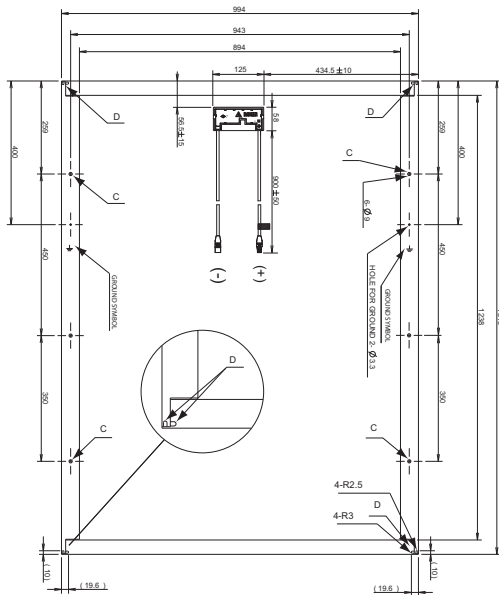
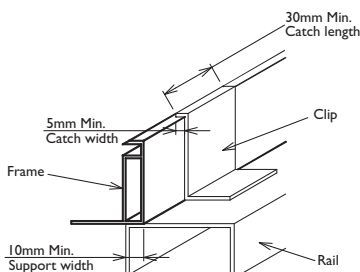
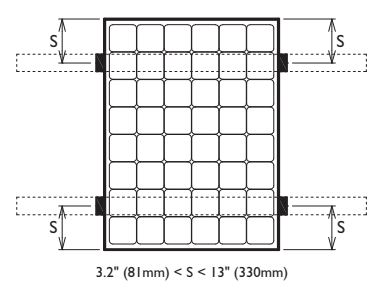

Figure 1
Figure 3
Figure 5
All PV modules must be grounded by electrical connection of the module frames to ground. Please be careful in arranging the system ground so that the removal of one module from the circuit will not interrupt the grounding of any other modules. The modules should be grounded to the same electrical point as described below. Each PV module has a hole on the side frame for either a bolt, nut and washer grounding the module to the frame, a ground lug fastened by bolt or screw, or appropriate screw (hardware not provided). An example of acceptable ground connection using a bolt, nut and washer retaining a ground lug is shown in figure 3. In a connection of this type, the hardware (such as a toothed locked washer / star washer) must score the frame surface to make positive electrical contact with the frame. The ground wire must be considered within the requirement of local regulations at the site of installation.
Mounting Using Frame Bolt Holes (Figures 1 & 2)
The modules may be fastened to a support using the bolt holes in the bottom of the frame at location "C", as shown in Figure 1 (back view of the module) and Figure 2 (mounting detail). The module should be fastened with four (4) M8 (5/16") bolts. Take care during installation to not block the drain holes (D) shown in Figure 1.
The modules may be mounted using clips (clamps) designed for solar modules as shown in Figures 3 and 4. Note that the clip positions are important – the clip centerlines must be between 3.2" (81mm) and 13" (330mm) from the end of the module. The module must be supported along the length of the long edge, and should overlap the array rail by at least 0.4" (10mm). Note that the mounting clips should meet the minimum dimensions (catch width of 0.2" (5mm) and length of 1.2" (30mm)) as shown in Figure 3. The array rails must support the bottom of the modules and must be continuous pieces (no breaks in the rail). Take care during installation to not block the drain holes (D) shown in Figure 1.
Mounting Using Clips on Long Edge of Module: Long Edge Perpendicular to Array Rails (Figure 5)
The modules may also be mounted using clips on the long sides of the module when the array rails are perpendicular to the long sides, as shown in Figure 5. The clip centerlines must be between 3.2" (81mm) and 13" (330mm) from the ends of the module. Note that the mounting clips should meet the minimum dimensions (catch width of 0.2" (5mm) and length of 1.2" (30mm)) shown in Figure 3. The array rails must support the bottom of the modules and must be continuous pieces (no breaks in the rail). Take care during installation to not block the drain holes (D) shown in Figure 1.